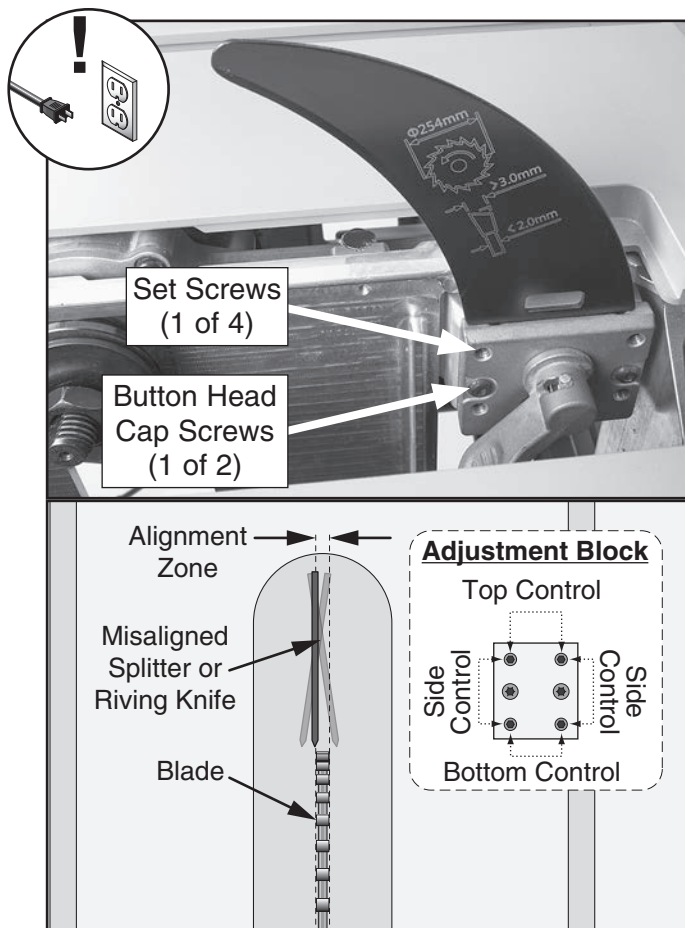

Figure 88. Set screws for adjusting spreader/riving knife position.
3. Loosen (2) cap screws on mounting block, then adjust either top or bottom control set screws or side control set screws (see **Figure 88**) to move it the needed direction.